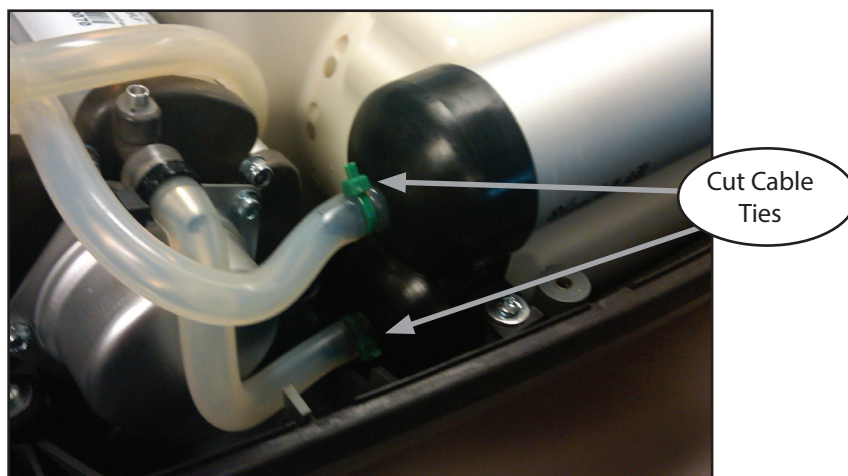

Figure 43: Cut Cable Ties
- 3) Locate the Product Tank and cut the cable ties from the ATF to the product tank (Bottom), and O2 out from the outlet connector (Top). Remove tubing from ATF to lower product tank barb. See Figure 43.